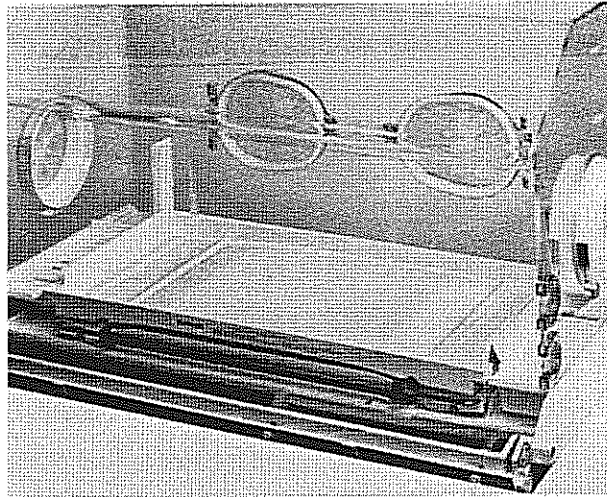

FIGURE 2.3 MATTRESS REMOVED FROM THE INCUBATOR
- B. REMOVE THE MATTRESS from the Incubator (refer to Figure 2.3).